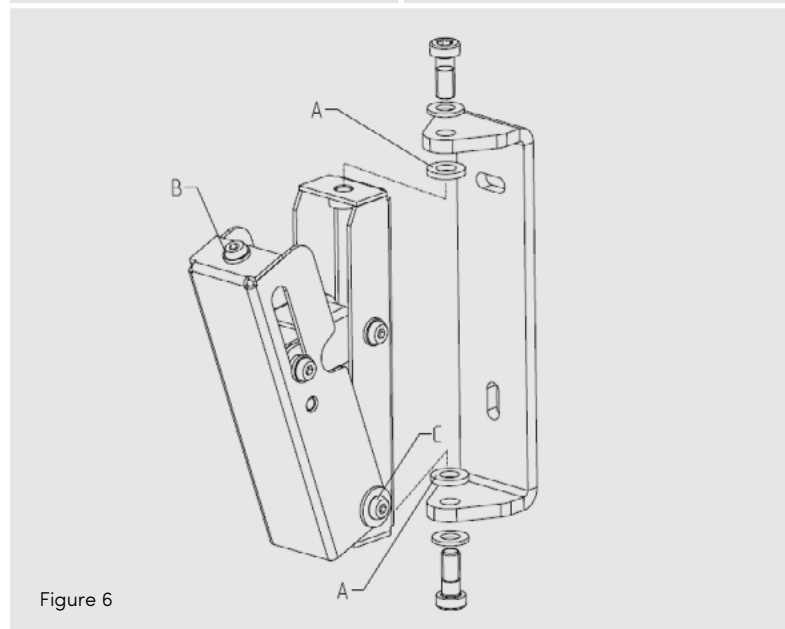

Figure 6
3. Fix the **WLX-100** or **WLX-221** to the building structure using two screws and wall plugs. To do this, you will need to disassemble the mounting bracket from the wall bracket. During installation, don't forget to place the two tooth-lock washers (A) between the mounting bracket and the wall bracket. **SEE FIGURE 6.**
4. Put the mounting bracket in a roughly vertical position by turning the adjustment spindle (B) to the right.
5. Loosen the screws (C) by about three turns.
6. Place the loudspeaker and its mounting plate on the wall bracket. Both sides of the mounting plate must be resting on the screw (C). The flat washer must be placed between the mounting plate and the screw head.
7. At this point the fixing screws (D) and washers can be fitted and tightened with a torque of 8-10 Nm. There are two options here: If the front holes (20) are to be used, this will result in an adjustment angle of 0-20°; if the rear holes (30) are used, this will result in an adjustment angle of 10-30°. **CAUTION: LEN-150 und LEN-220 models should only be inclined to a maximum angle of 20°!**
8. Set up the required inclination angle by turning the adjustment spindle (B) to the left. If you need to reduce the angle again, turn the spindle back while pushing the speaker slightly up towards the wall bracket and thus releasing the spindle.
9. Loosen the clamping screws (E) on the horizontal axis and turn the loudspeaker to its required position.
10. Once you are happy with the loudspeaker's angle and rotation, tighten the clamping screws (E) with a torque of 20 Nm and clamping screws (C) with a torque of 8 Nm.